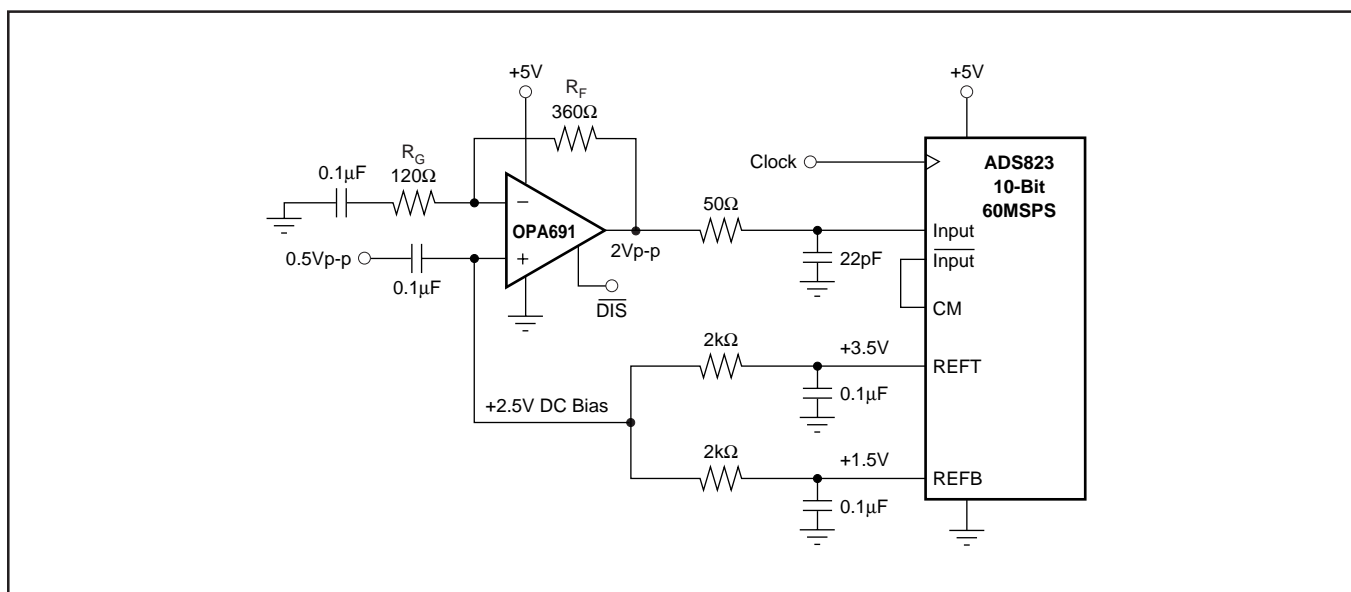

FIGURE 3. Wideband, AC-Coupled, Single-Supply ADC Driver.
Most modern, high performance ADCs (such as the Texas Instruments ADS8xx and ADS9xx series) operate on a single +5V (or lower) power supply. It has been a considerable challenge for single-supply op amps to deliver a low distortion input signal at the ADC input for signal frequencies exceeding 5MHz. The high slew rate, exceptional output swing, and high linearity of the OPA691 make it an ideal single-supply ADC driver. Figure 3 shows an example input interface to a very high performance, 10-bit, 60MSPS CMOS converter.
The OPA691 in the circuit of Figure 3 provides > 180MHz bandwidth operating at a signal gain of +4 with a 2VPP output swing. One of the primary advantages of the current feedback internal architecture used in the OPA691 is that high bandwidth can be maintained as the signal gain is increased. The noninverting input bias voltage is referenced to the midpoint of the ADC signal range by dividing off the top and bottom of the internal ADC reference ladder. With the gain resistor (RG) AC-coupled, this bias voltage has a gain of +1 to the output, centering the output voltage swing as well. Tested performance at a 20MHz analog input frequency and a 60MSPS clock rate on the converter gives > 58dBc SFDR.